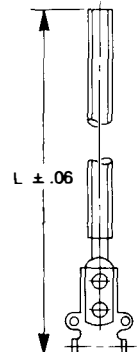

Figure 3
- Cut (1) rod assembly, item 3, to length for operating rod. See Fig. 3 ($L = D - 3 - 3/4$). See Fig. 5 for D dimension. Turn drive pin so correct stamping shows above tapped hole, either RH (Right Hand) or LH (Left Hand), to correspond with side on which operating mechanism is mounted and screw rod in eight full turns. See Fig. 1.